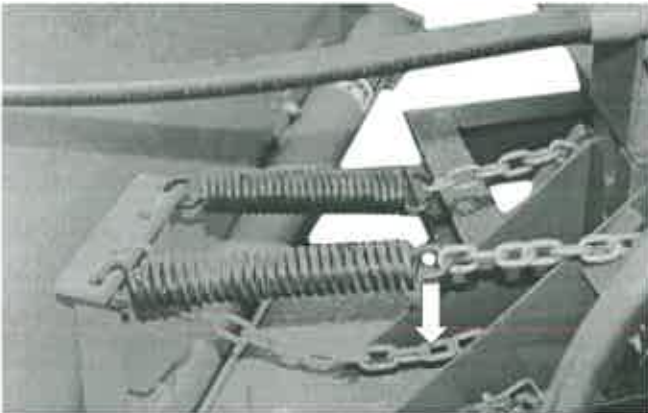

figure 12
4. Connect the transport chain, which is attached to brush head upright, to the remaining slot on the swing plate upright or mounting assembly upright. Figure 12 shows the transport chain installed.